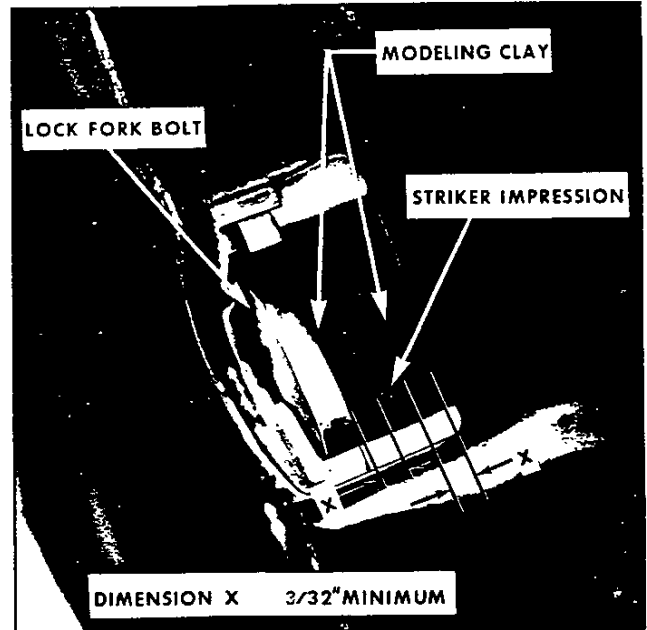

Fig. 20—Checking Adjustment of Striker
Door Lock Striker (Fig. 20)
- d. Measure striker impression as follows: Striker head should be centered fore and aft as shown; however, some tolerances are allowed. In this alignment, it is important that minimum dimensions as outlined in Figure 20 be strictly maintained. The following spacers are available as service parts and can be used